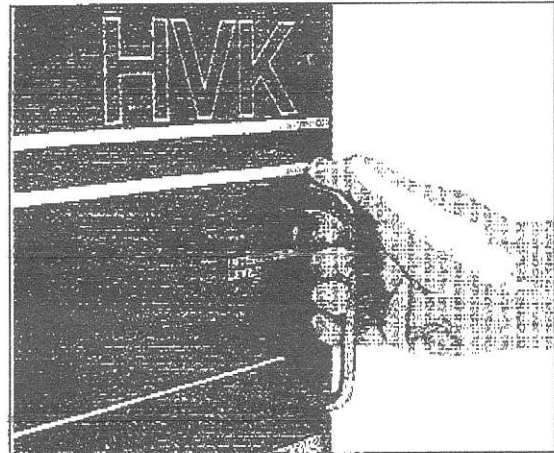

Fig. 25 Lifting Interlock Lever
- 1) Lift and hold the interlock lever on the right side as shown in Fig. 25.